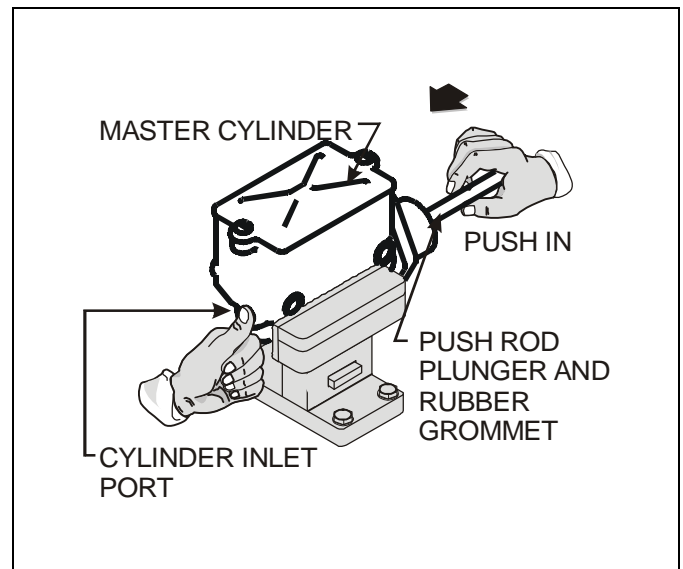

Figure 2-6 Bench Bleeding the Master Cylinder
1. Support the cylinder in a vise while allowing you to push the internal piston with the push rod (See Figure 2-6).
3. Slowly push in on the rubber boot and cylinder plunger (push rod) assembly to force air from the cylinder, then hold the push rod in (See Figure 2-6).
2. First clean the reservoir cap to avoid fluid contamination, then remove the fill cap and rubber gasket (See Figure 2-6).